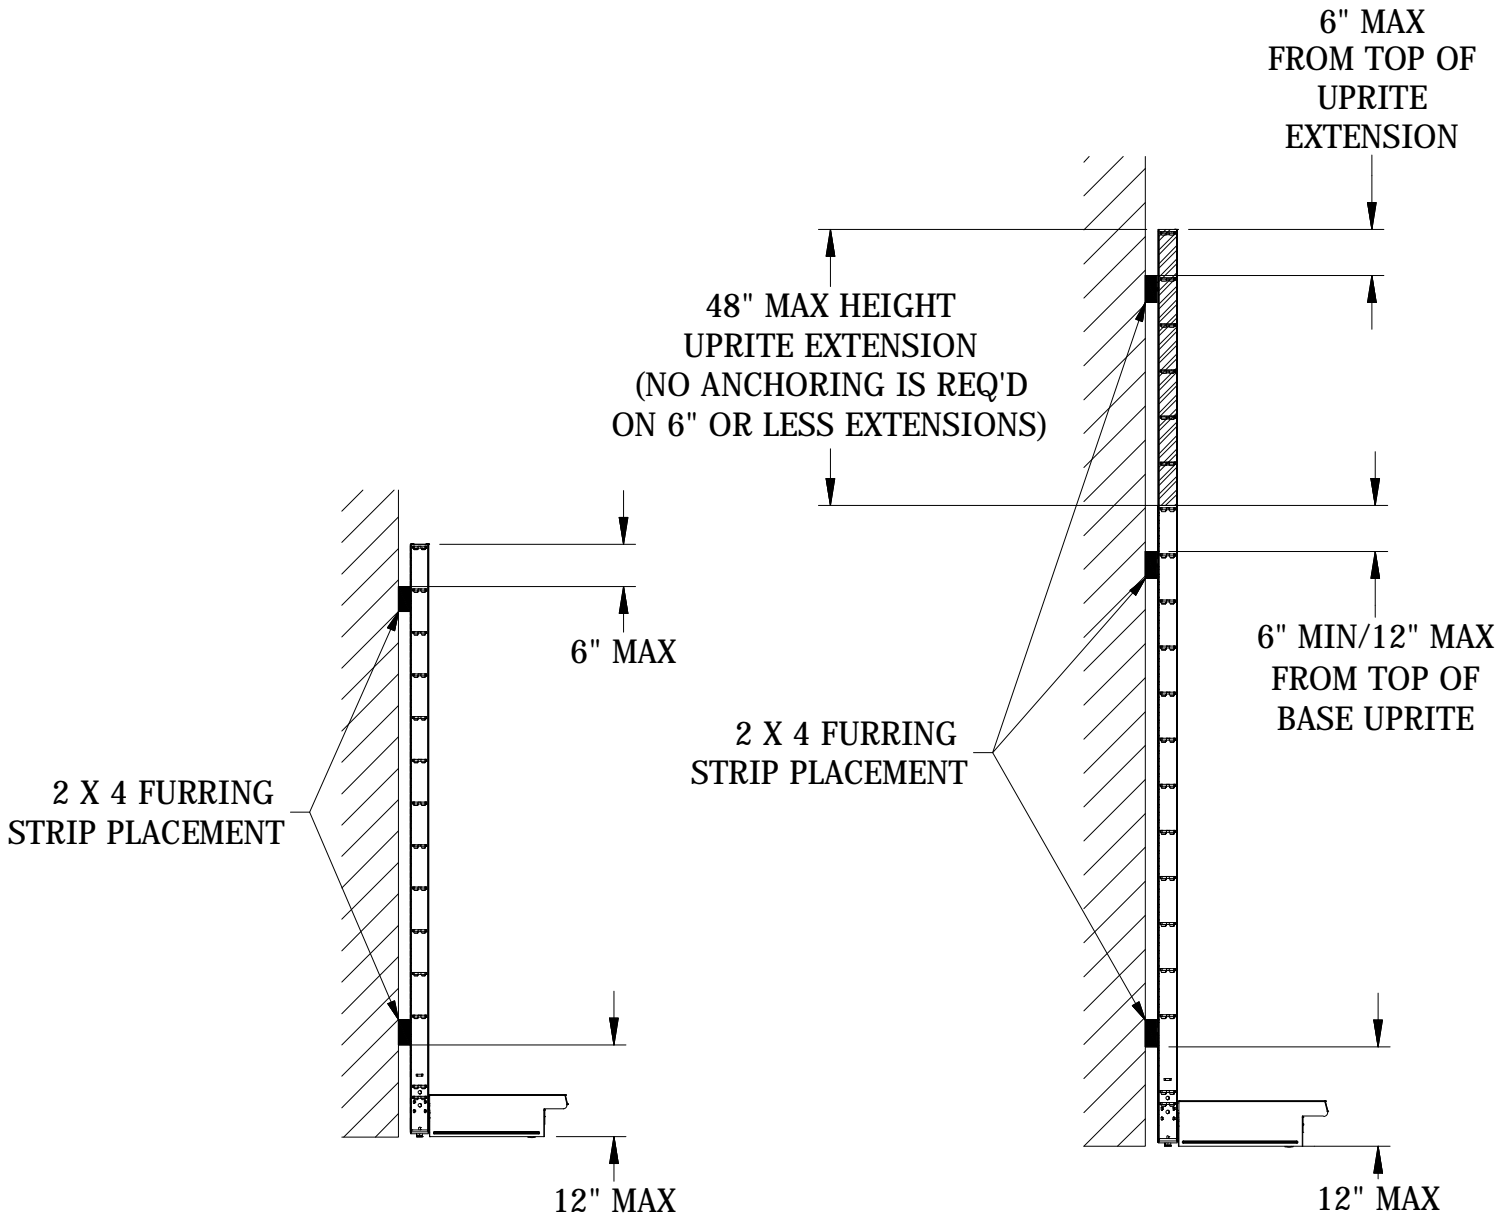
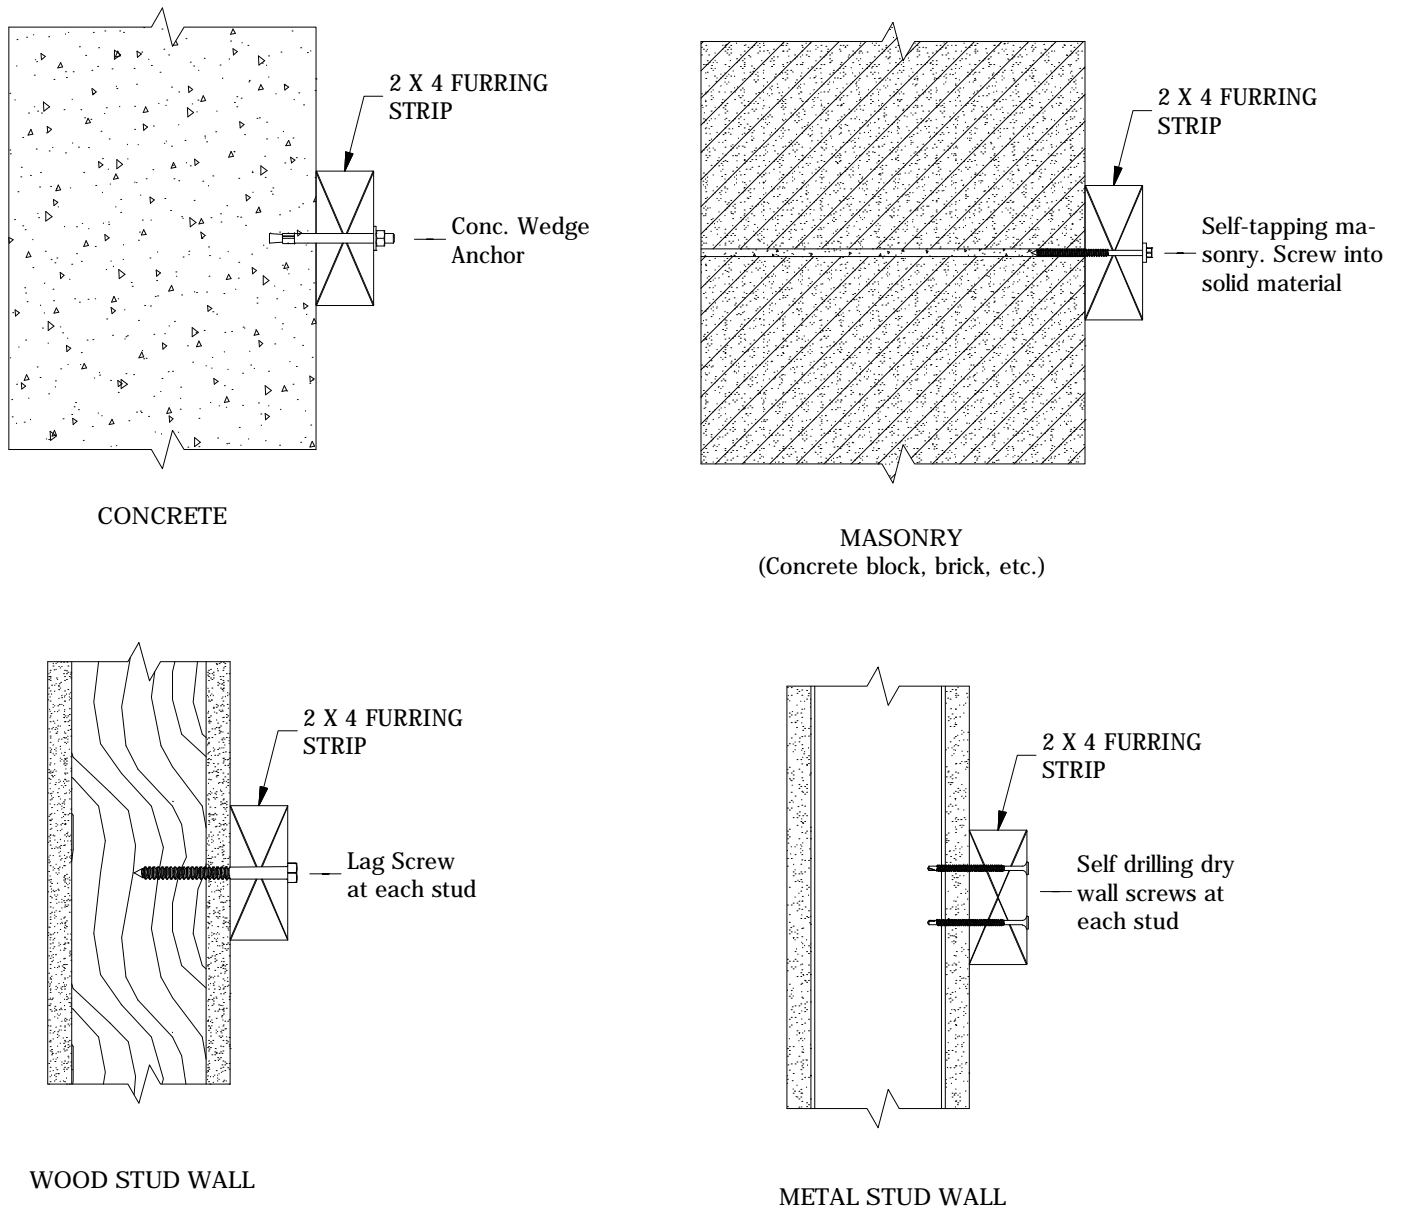

FIGURE 1
FIGURE 3
STEP 1: Locate/position furring strips as shown in FIGURE 1 or 2 depending on use of extension or no extensions. Lozier recommends use of 2 x 4 furring strips, see FIGURE 3 on following page for suggested installation methods. Attachment of the furring strip to the building wall (including fasteners) as well as the suitability of the wall to support the structural loads should be evaluated by a licensed structural engineer.